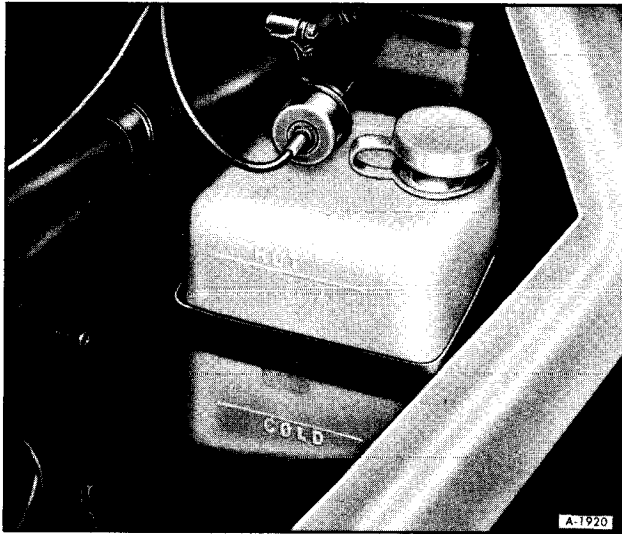

Figure 2—Coolant Recovery Reservoir
A pressure-vacuum valve radiator cap is used which allows the coolant to expand through the pressure valve in the center of the cap without building unnecessary pressure. The expanding coolant flows into the coolant reservoir (See figure 2). The vent valve closes due to expansion and coolant flow. The nominal 9 pound pressure will not be reached until the system is working at maximum capacity.
7. Fill reservoir to "COLD" level mark. See Figure 2.